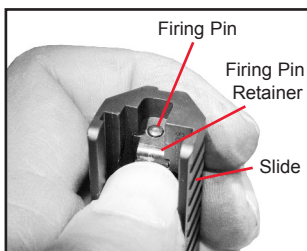

Figure 32
4. Push the Firing Pin Assembly in the Slide while sliding the Firing Pin Retainer over the Firing Pin Assembly until the Firing Pin is captured by the Firing Pin Retainer. See Figure 32.